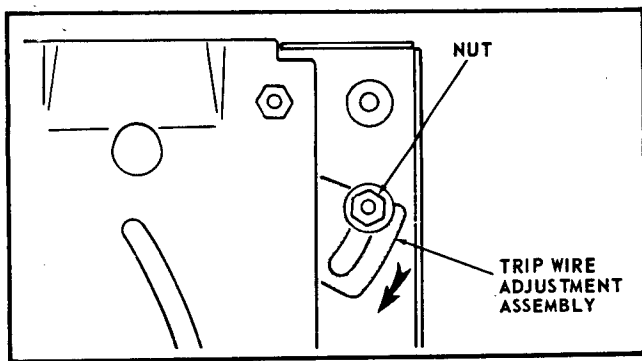

FIGURE 14
47. Loosen but do not remove the Nut/Lockwasher which attaches the Trip Wire Adjustment Assembly. See Figure 14.